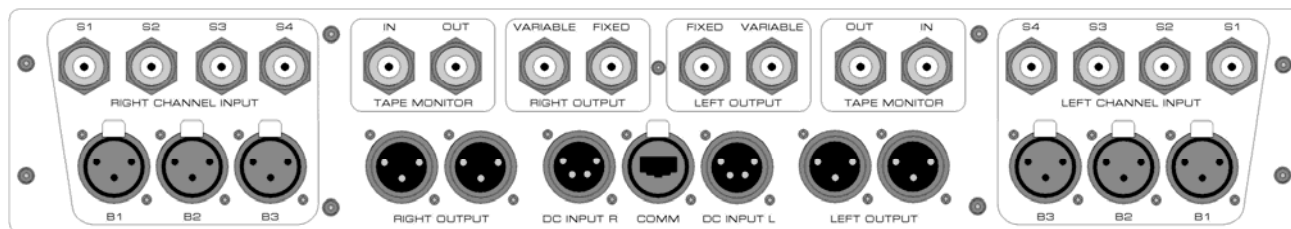

Figure 3: Rear panel of MOON P-8 Preamplifier
The rear panel of the **MOON P-8** dual-mono preamplifier will look similar to Figure 3 (above). There are two rows of connectors; the top row contains single-ended RCA inputs/outputs and the bottom row contains balanced XLR inputs/outputs, as well as the three input connections from the separate digital controller chassis. There are three (3) pairs of balanced inputs on XLR connectors (B1, B2, B3) and four pairs (4) of single-ended inputs on RCA connectors (S1, S2, S3, S4). As a result of this preamplifier's dual-mono design, the left channel inputs are located on the left side and the right channel inputs are located on the right side. This preamplifier is also equipped with a single-ended tape monitor loop; the input and output connectors for each channel are located on their respective sides of the rear panel. The **P-8** has two (2) pairs each of balanced outputs and single-ended outputs. Both balanced outputs are variable; One single-ended output is variable and the other one is fixed, meaning that it bypasses the volume control. Don't hesitate to use high quality interconnect cables. Poor quality interconnect cables can degrade the overall sonic performance of your system.